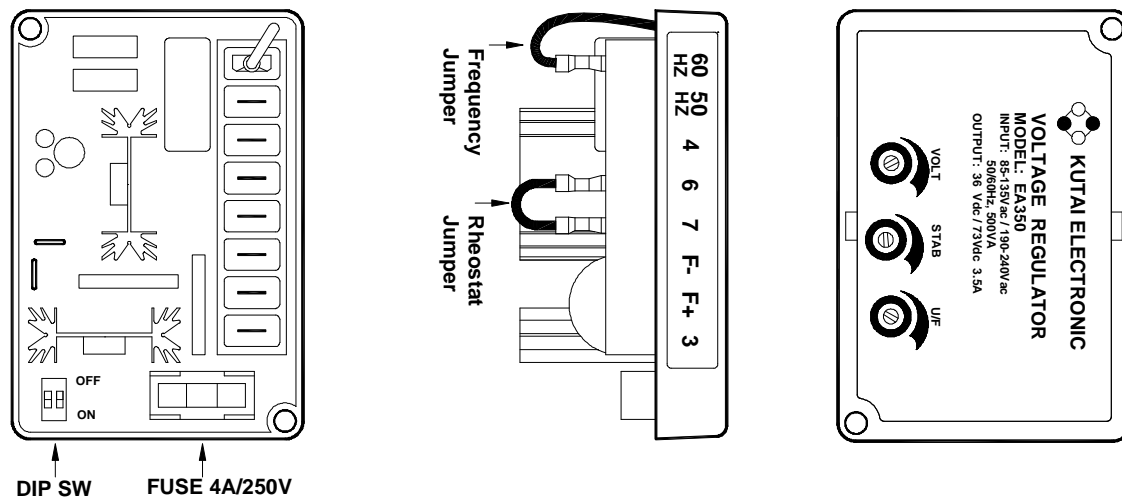

Figure 2 Jumper and Potentiometer Control Locations
- The EA350 potentiometer controls are accessible through the controller front panel and are shown in Figure 2.